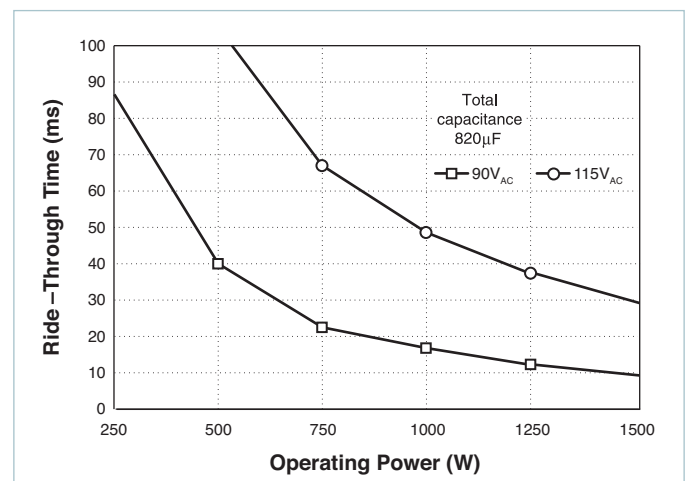

Figure 16 — Ride-through time vs. operating power
**Determining Ride-through Time:** Figure 16 illustrates ride-through time as a function of line voltage and output power, and shows that at a nominal line of  $115V_{AC}$ , ride-through would be 68ms. Ride-through time is a function of line voltage.